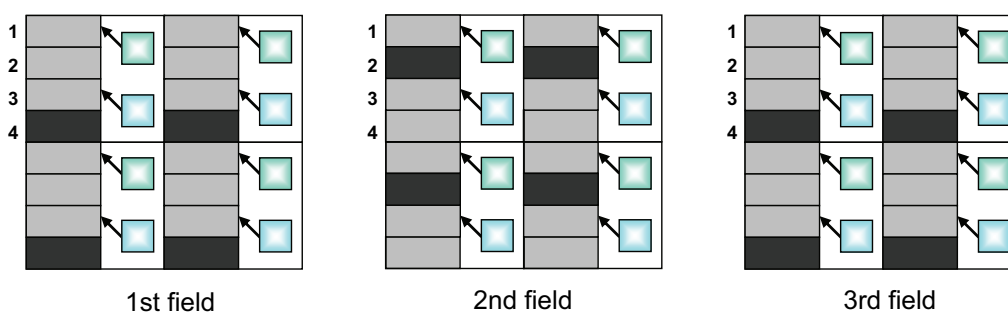

Figure 51: Format_7 Mode_0: 4-phase vertical shift register precharging (interlaced, field)
- see Figure 51: Format_7 Mode_0: 4-phase vertical shift register pre-charging \(interlaced, field\) on page 102 and